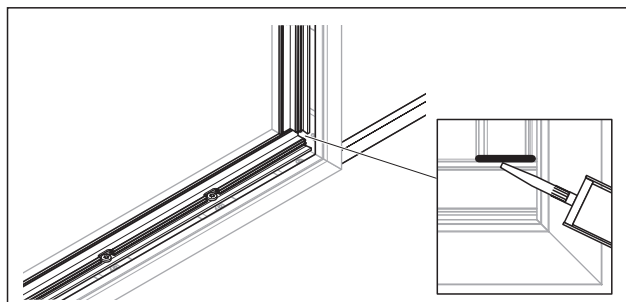

Fig. 32 Example of siliconizing the joints from the profile's inner side
- Correctly siliconize the joints from the profile's inner side (Fig. 32).